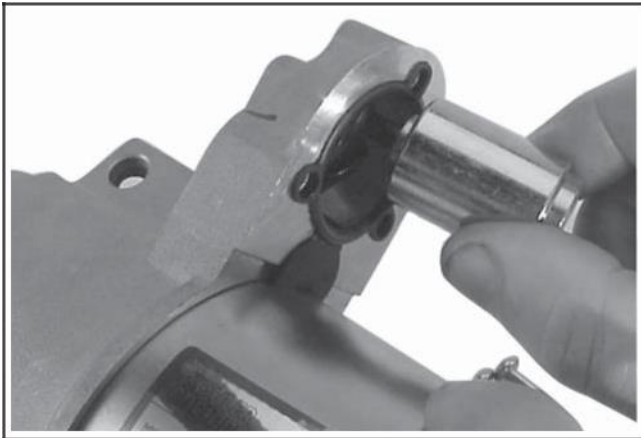

Figure 8-40. Removing Plunger.
3. Lift and unhook the plunger assembly from the drive lever. Remove the gasket from the recess in the housing. See Figure 8-40.